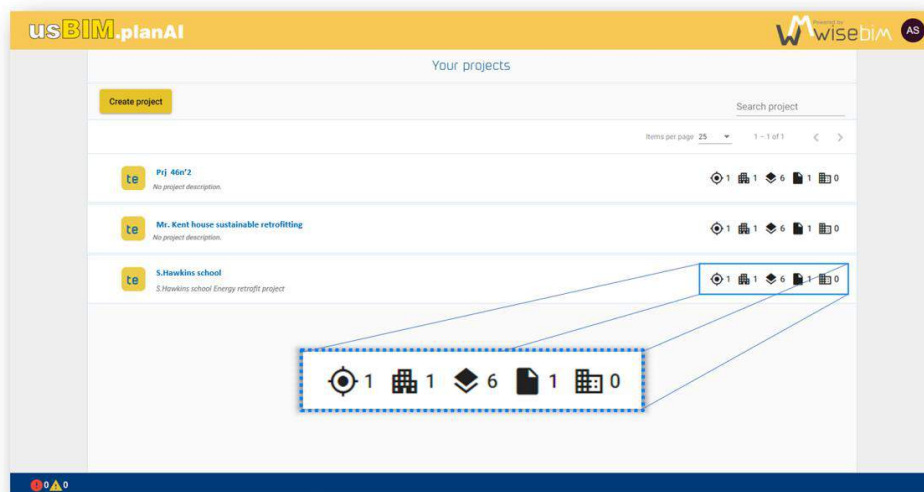

Figure 7. projects list
- A central area to access project data (Figure 7).
The home page displays the list of projects that the user can access (Figure 7).